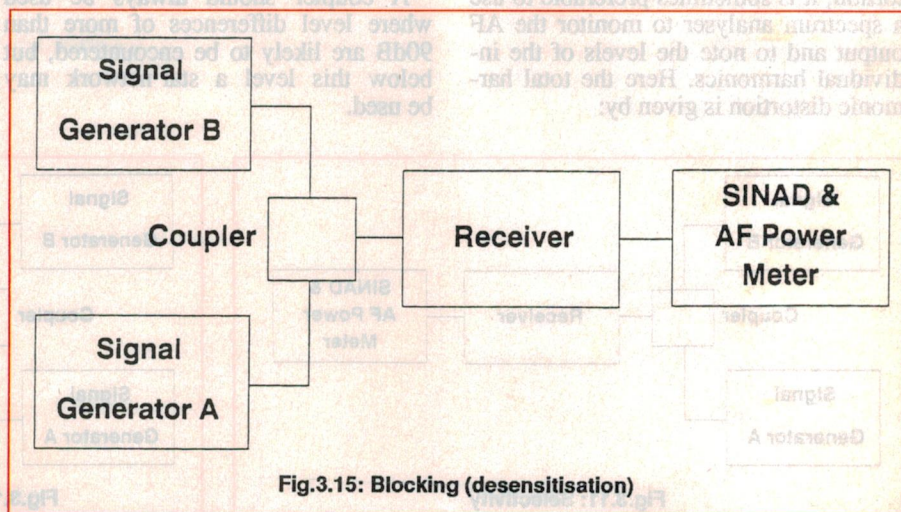

Fig.3.15: Blocking (desensitisation)
- i) Connect the equipment as shown in Fig.3.15.